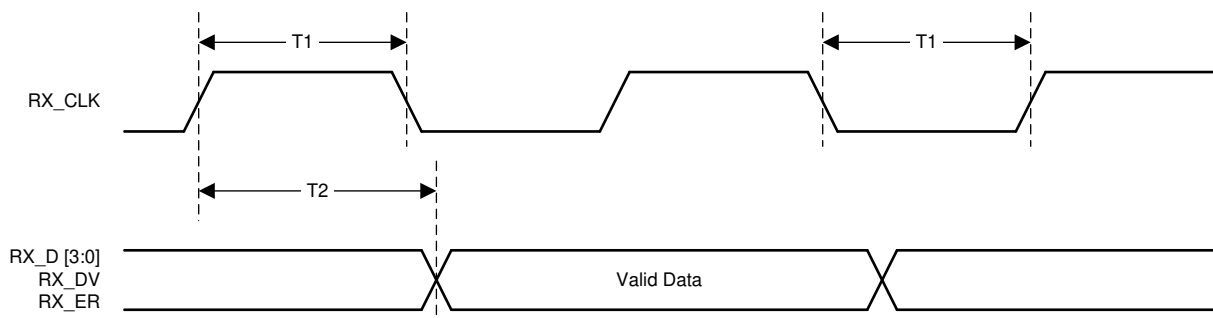

图 7-8. 10-Mbps Receive Timing
- (1) Ensured by production test, characterization or design.
(2) See 图 7-8.